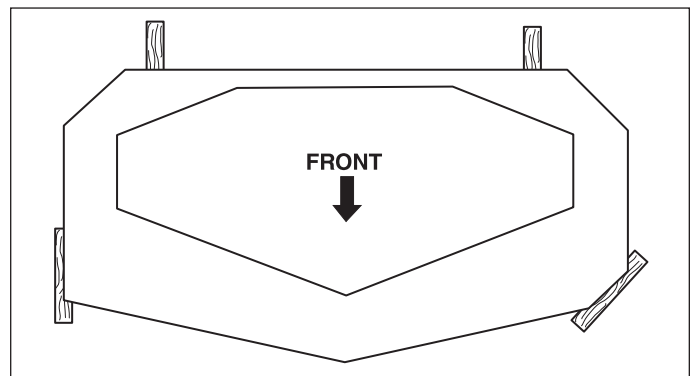

Figure 23. 2 x 4 Locations
6. Place 2 x 4 blocks under each corner of the mower deck with the 3-1/2" sides being vertical. See Figure 23.